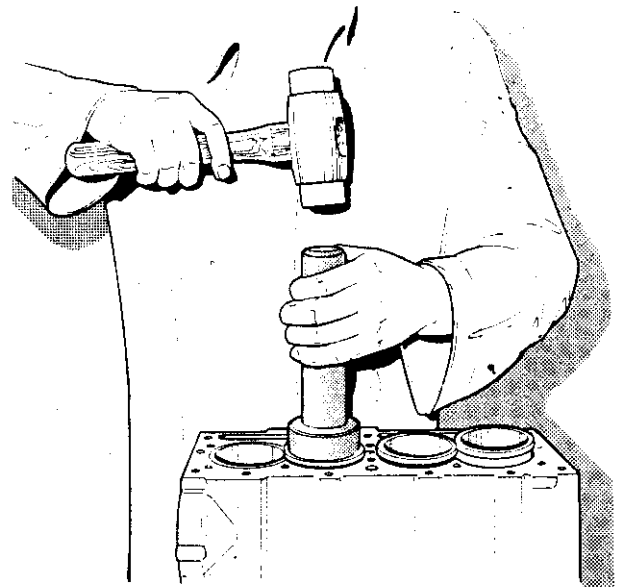

Figure 29 Fitting cylinder liners
2. Using a tool similar to that shown in **Figure 29**, insert the liners in to the block and ensure that they stand 0.050 to 0.152 mm (0.002 to 0.006 in) proud of the cylinder block face. Check that there is 0.381 mm (0.015 in) clearance between liners.